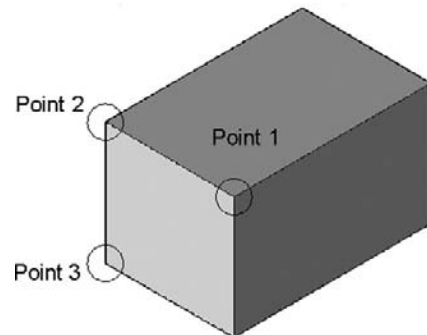

FIGURE 26.12
The order we picked the source points was Top Left→Top Right→Bottom Right. As we swing Block 2 around, the corresponding points on Block 1 are Top Right→Top Left→Bottom Left. Do you see why? Visualize this on a nearby object, one that you can pick up, locate the points on, and turn around: perhaps a cell phone or a book. Let us now select those points, as seen in Figure 26.12. As you are doing this,
Step 4. The hole is removed, as seen in Figure 26.12. Press Esc to return to the command line.